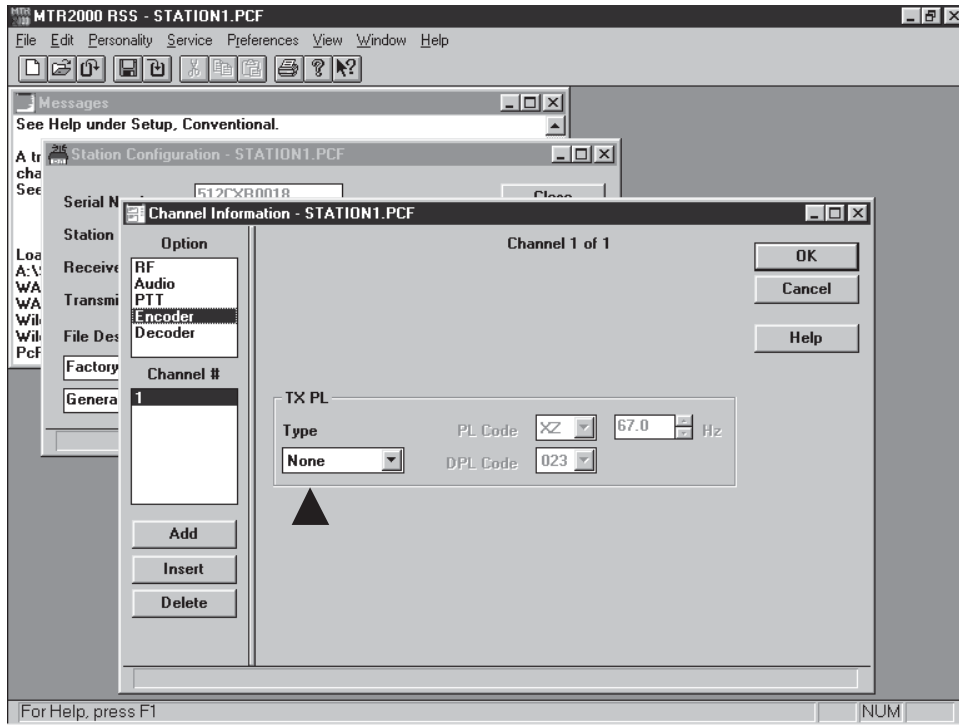
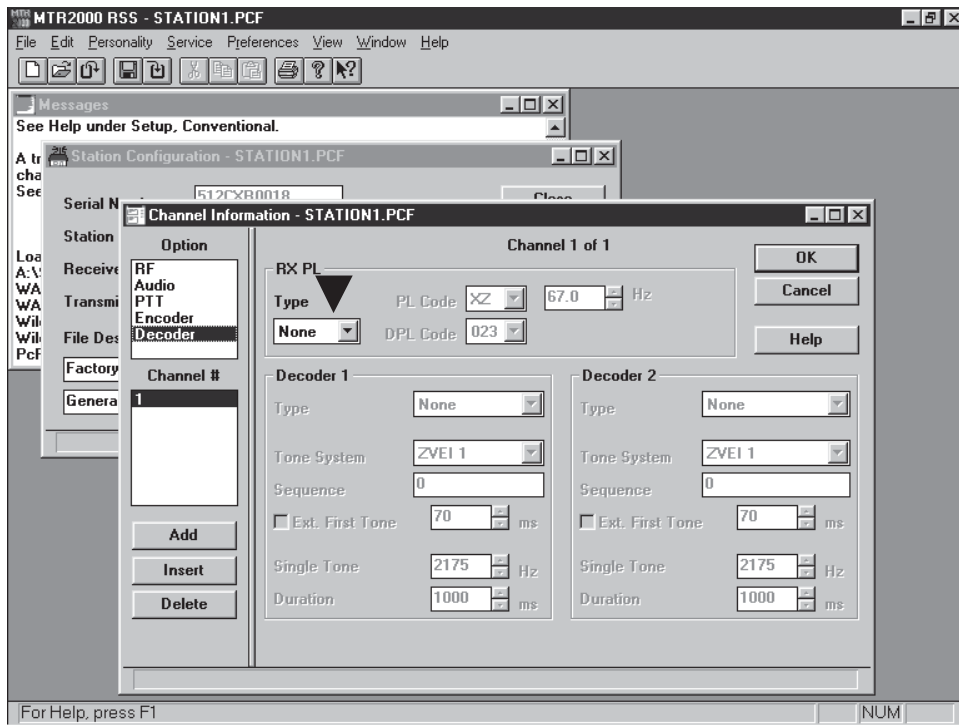

Fig. 7
Fig. 8
11. The next item to be selected from the **Option** window is **Encoder** and **Decoder**. These two should both have **None** in the **Type** window as indicated by the arrows in Fig. 7 and Fig. 8. Click **OK** to close the *Channel Information* window.